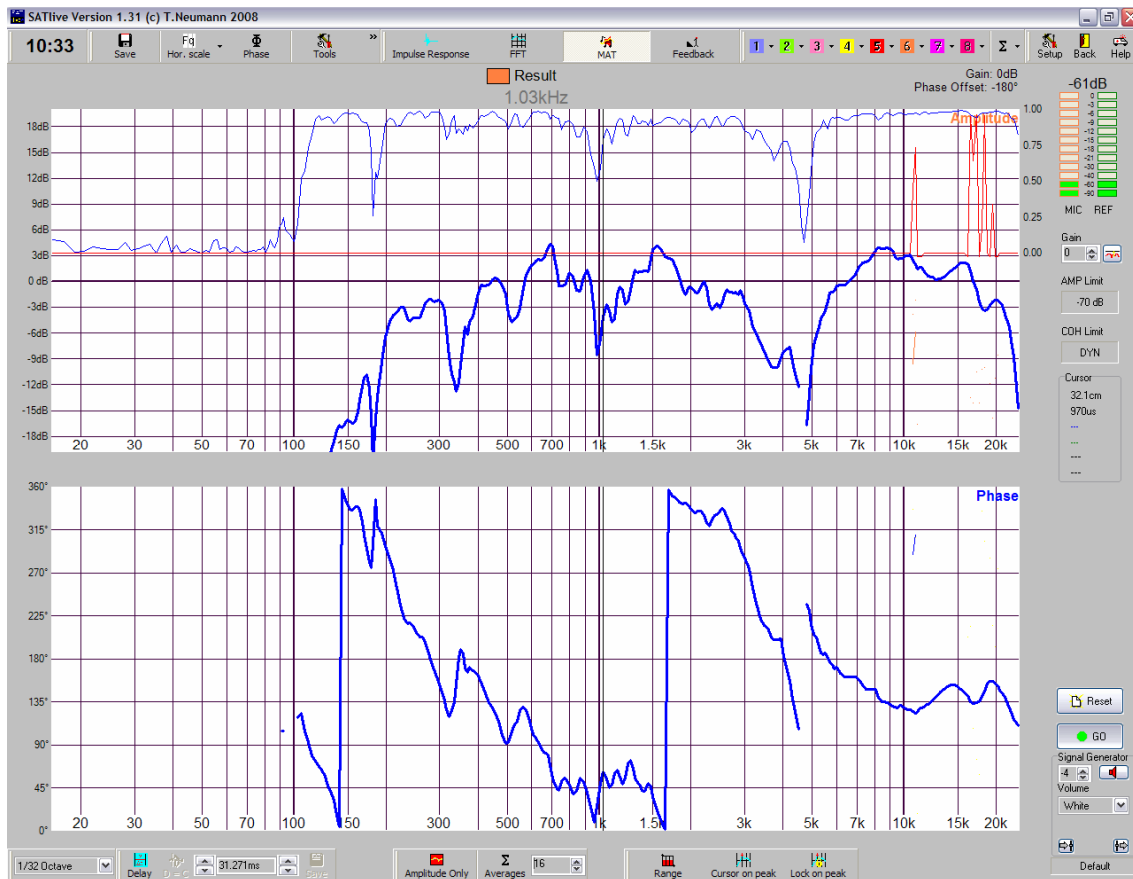

Fig. 9. Magnitude and phase frequency response for the mid-highs.
5) Measure the mid-highs and save the curve. In our example, the curve in Figure 9 is obtained.